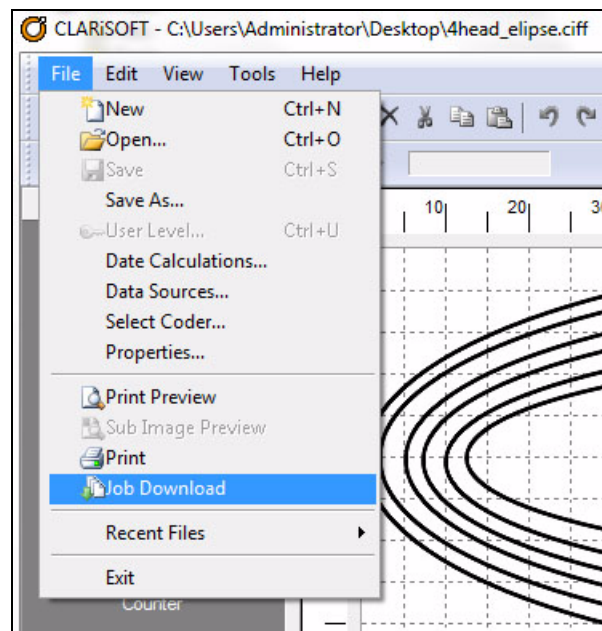
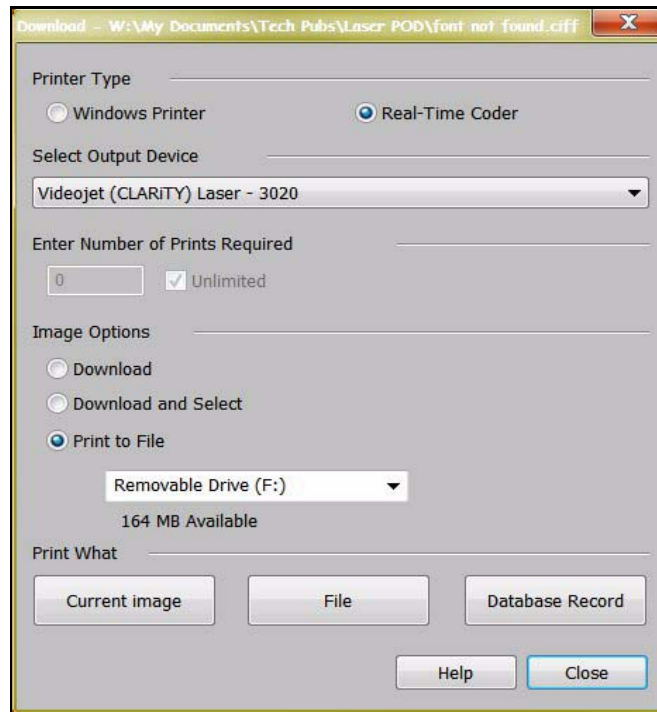

Figure 5-17: Job Download Command
Figure 5-18: Job Download Command
- 2 On the *File* menu, click *Job Download* (see Figure 5-17). The *Download* window appears (see Figure 5-18 on page 5-29).
- 3 Ensure that the *Real-Time Coder* is selected (see Figure 5-18).